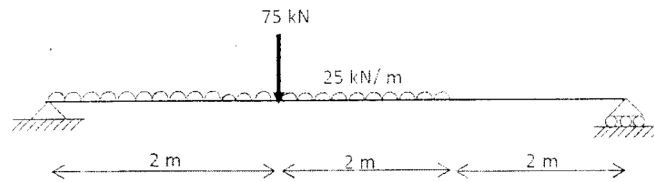

Figure 5
10. Find the mid-span deflection and the slopes at the supports of a beam loaded as shown in Figure 5. Adopt  $E = 2 \times 10^5$  MPa and  $I = 8000 \times 10^4$  mm4.